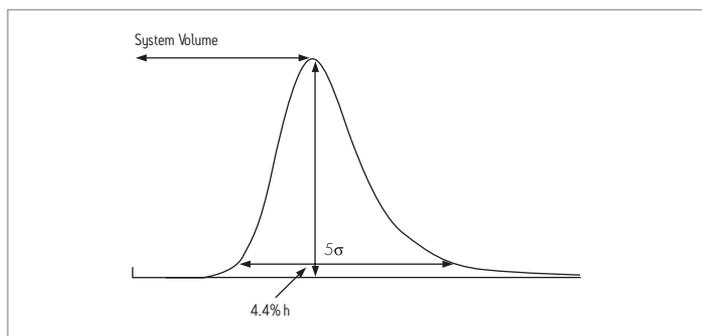

Figure 2: Determination of System Bandspreading Using the 5-Sigma Method
3. Use the 5-Sigma method shown in Figure 2 to obtain the band spreading value in  $\mu\text{L}$ .
This section describes how to measure extra column effects and gives some guidelines on how to maximize the advantages of your Waters narrow-bore column. Modifications to your HPLC system will probably be required in order to avoid system band spreading. Without proper system modifications, system band spreading causes peak broadening and has a large impact on peak width as peak volume decreases. To measure the band spreading of your HPLC system, refer to the procedure, Measuring Instrument Band Spreading, in Section II. a. and refer to Figure 2.